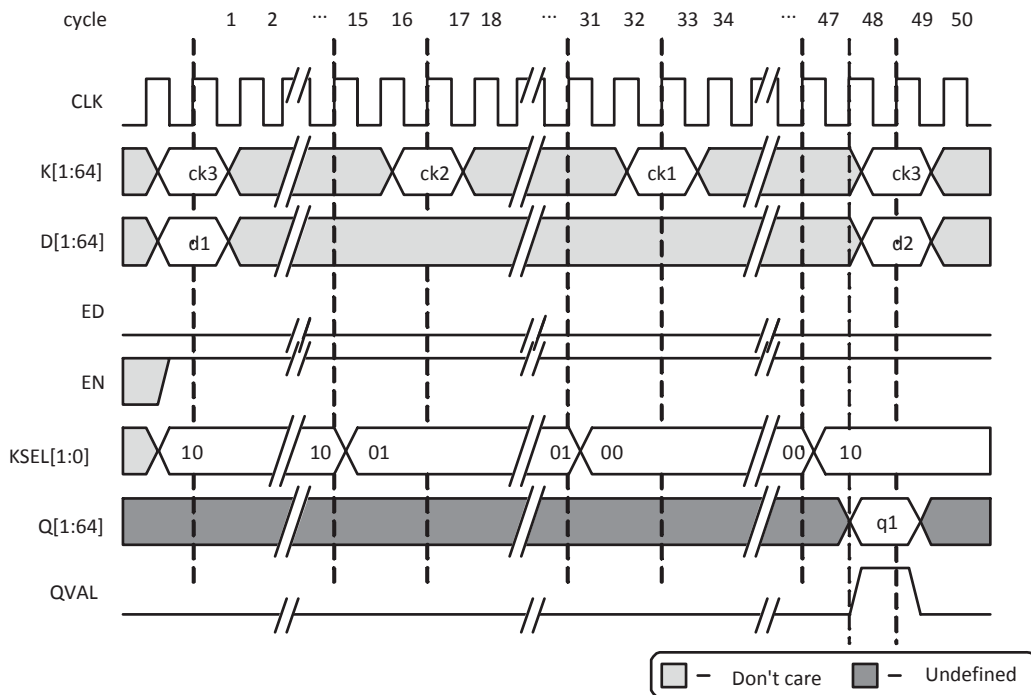

Figure 9 Example Decryption Sequence
- K[1:64] is set to the third of three cipher sub-keys (ck3 in Figure 9) to decrypt the data.
- D[1:64] is set to the ciphertext data (d1 in Figure 9) to be decrypted.
After 15 clock cycles of the EN input being held continuously at a logic '1' value, the KSEL[1:0] outputs change from '10' to '01', indicating that the second of three cipher sub-keys (ck2 in Figure 9) must be presented on the K[1:64] inputs, which is done by the rising clock edge of the start of clock cycle 17 (one complete clock cycle of slack is built into the Core3DES circuitry). After 31 clock cycles of the EN input being held at a logic '1', the KSEL[1:0] outputs will change from '01' to '00', indicating that the first of three cipher sub-keys (ck1 in Figure 9) need to be presented on the K[1:64] inputs, which must be done by the rising clock edge of the start of clock cycle 33. Note that for decryption, the order in which the three cipher sub-keys are required differs from the encryption process (described in the previous section); cipher sub-key three is required first, cipher sub-key two is next, and cipher sub-key one is last.
After 48 clock cycles of the EN input being held continuously at a logic '1' value, the QVAL signal transitions from logic '0' to logic '1' and remains valid for one clock cycle, indicating that valid plaintext (unencrypted data, shown as q1 in Figure 9) is available on the Q[1:64] outputs.
As shown in Figure 9, continuous decryption is possible. For example, the second 64-bit ciphertext data word (d2 in Figure 9) can be immediately decrypted by presenting d2 on the D[1:64] inputs by the rising clock edge of clock cycle 49 and by presenting the cipher sub-keys ck3, ck2, and ck1 in the sequence described earlier in this section.
After 16 clock cycles of the EN input being held continuously at a logic '1' value, the QVAL signal transitions from logic '0' to logic '1' and remains valid for one clock cycle, indicating that valid plaintext (unencrypted data shown as q1 in Figure 9) is available on the Q[1:64] outputs.